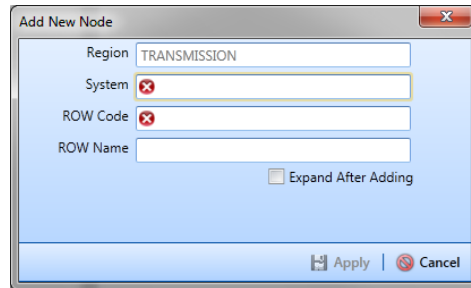

Figure 4-2. Add New Node
- 3 Click **Add** to open the *Add New Node* dialog box (Figure 4-2, page 131).